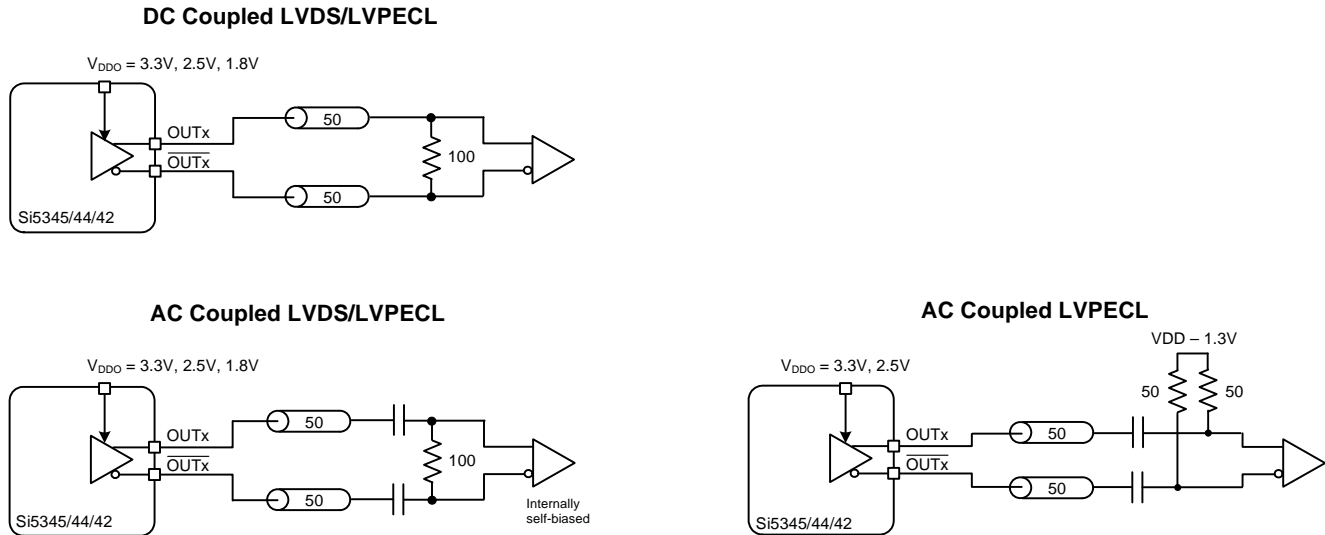

Figure 23. Supported Differential Output Terminations
The differential output drivers support both ac coupled and dc coupled terminations as shown in Figure 23.
- **Differential Normal Swing Mode:** When an output driver is configured in normal swing mode, its output swing is selectable as one of 7 settings ranging from 200 mVpp_{se} to 800 mVpp_{se} in increments of 100 mV. The output impedance in the Normal Swing Mode is 100Ω differential. Any of the terminations shown in Figure 23 is supported in this mode.
- **Differential Low Power Mode:** When an output driver is configured in low power mode, its output swing is configurable as one of 7 settings ranging from 400 mVpp_{se} to 1600 mVpp_{se} in increments of 200 mV. The output driver is in high impedance mode and supports standard 50 Ω PCB traces. Any of the terminations shown in Figure 23 is supported in this mode.